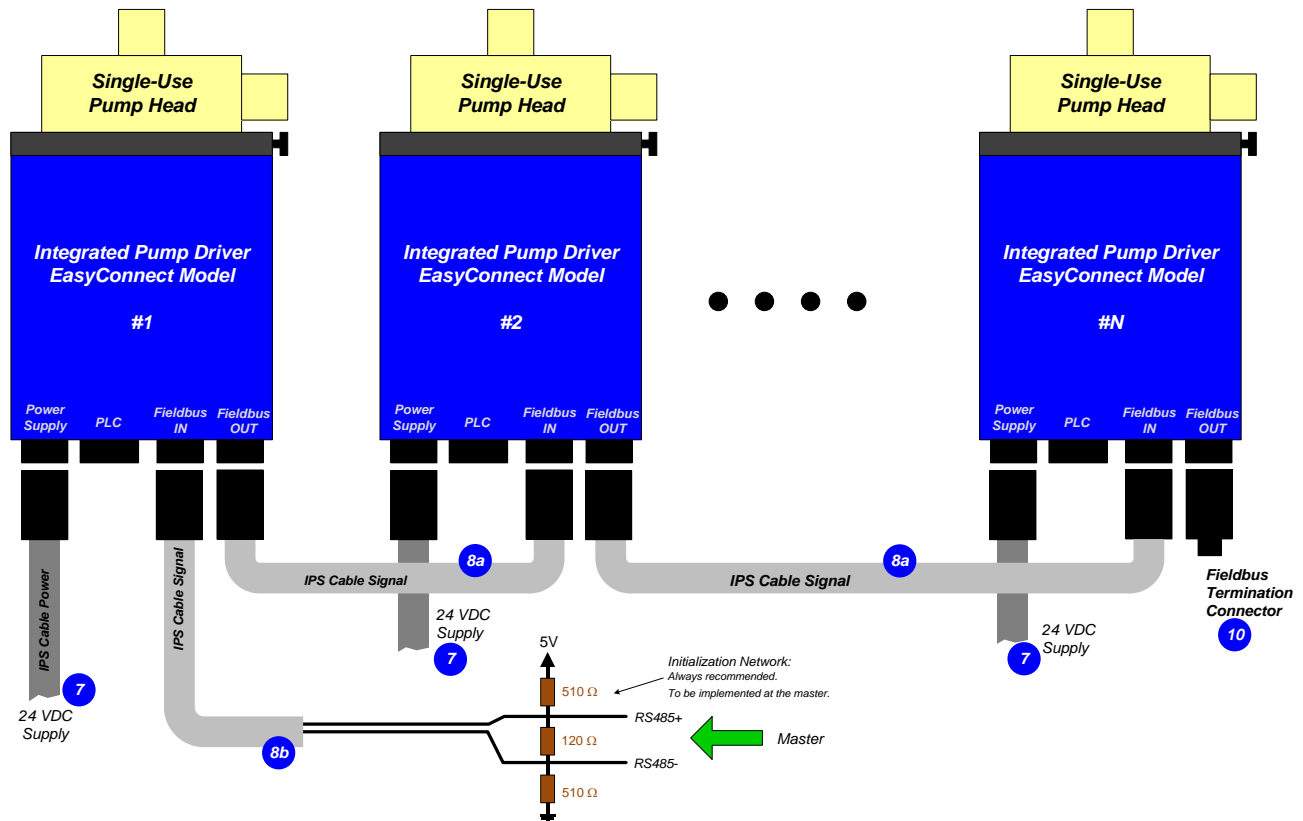

Figure 25: Multi-pump system arrangement with EasyConnect models with RS485 fieldbus
For usage of the RS485 (*Fieldbus IN*) as a control or service interface, an initialization resistor network according to Figure 25 shall be used in order to have a stable communication and avoid disturbance effects. The RS485 protocol for master communication is available at Levitronix® on request.
Figure 25 shows a typical multi-pump system arrangement with the RS485 fieldbus and its basic specifications for the EasyConnect Model.
- ➔ Various standard cables (see Table 3) are available to simplify the installation of a fieldbus array as illustrated in Figure 25.
- ➔ The fieldbus array must be terminated as illustrated in Figure 25. A dedicated connector with integrated termination resistor (see Table 3) is available.